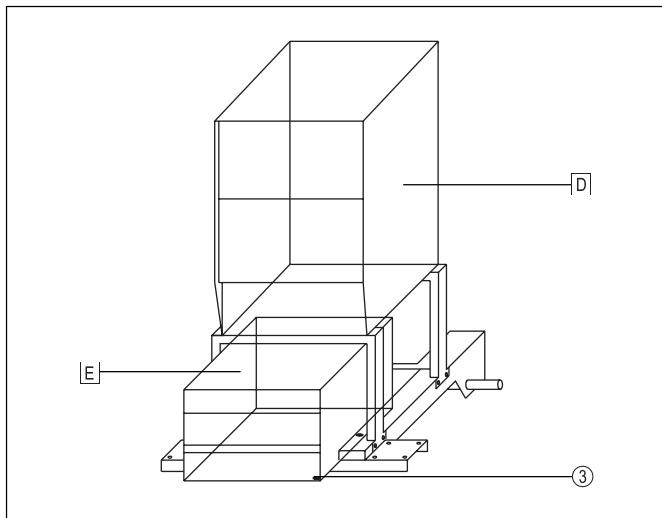

Fig.15 Assembling the power source
- As you can see in Fig. 15, the unit only needs to be fastened at Point **③**, using an M8x16 steel screw (inserted from below), with washer and retaining ring.